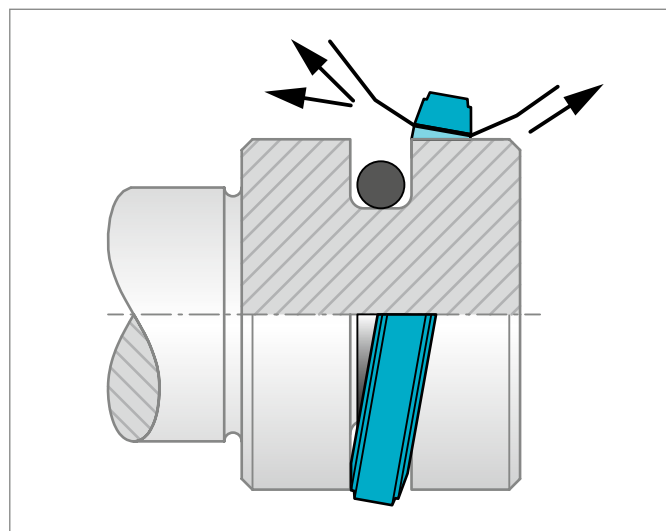

Figure 96: Fitting the seal ring onto the O-Ring in the groove
- Place the O-Ring in the groove and expand the seal ring over the piston, see Figure 96. Turcon® seals can be installed more easily by heating in oil, water or using a hot air fan to approximately 80 °C to 100 °C (expanding and then shrinking back to the original form).